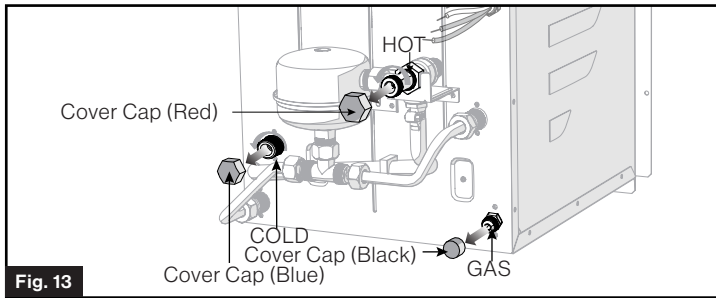

Fig. 13
2. Remove protective caps for COLD (blue), HOT (red) water connector and GAS connector from back side. (Fig. 13)